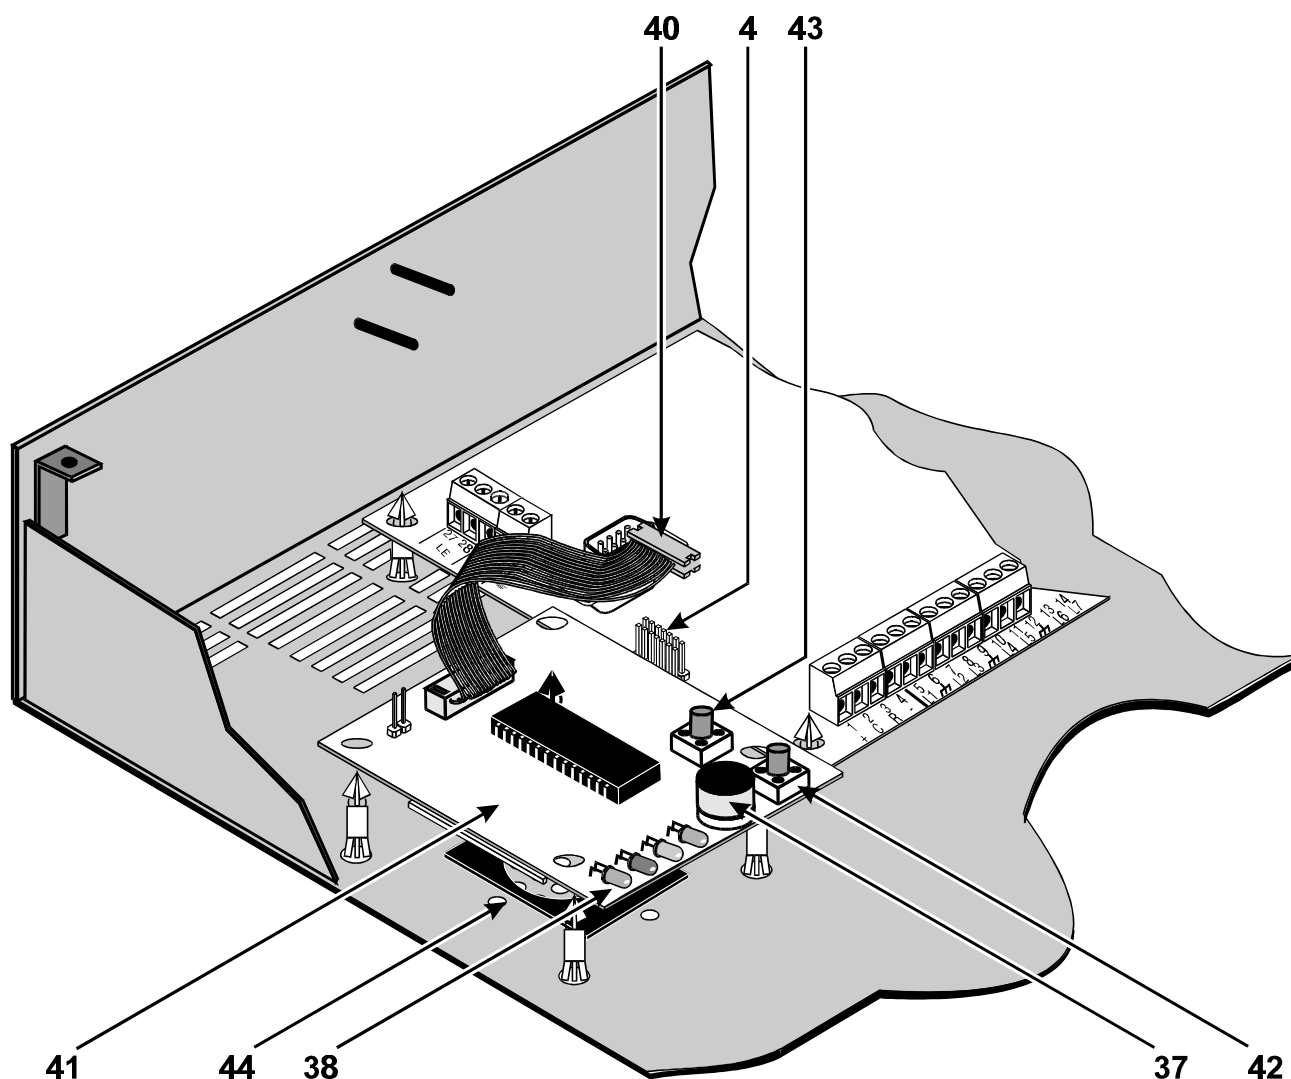

Figure 41 Parts and installation diagram of the NormaVox2 PCB
Install the NormaVOX2 board as follows (see also figure 41).
1. Remove the backing paper of the adhesive sound seal **44** and stick the seal to the backplate, in the middle of the four holes, as per figure 41.